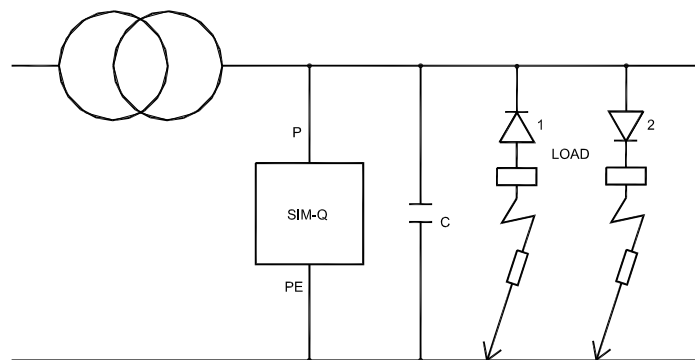

Fig. 4
Because of the measuring method used, the SIM-Q is able to measure the insulation correctly on an AC power network containing all kinds of loads, such as frequency converters (see the technical specifications for working frequency range), valves with rectifiers, thyristor controlled thrusters, switch mode power supplies, transformers, generators etc. The difficulty regarding some of the above-mentioned loads is that an insulation error in e.g. a frequency converter is often located after the rectifier and before the AC output of the converter. This kind of fault will result in a high DC voltage between the power system and the safety cable, which will interrupt the measurement on an insulation monitor based on traditional ohmic resistance measuring method, see figure 4.
If a DC voltage is detected, but the alarm limit value is not yet reached, the +FAULT or the -FAULT LED will flash to indicate that there is a DC voltage higher than 50V DC between the power system and earth (PE), but no insulation error below the alarm limit value yet, see Fig. 4.